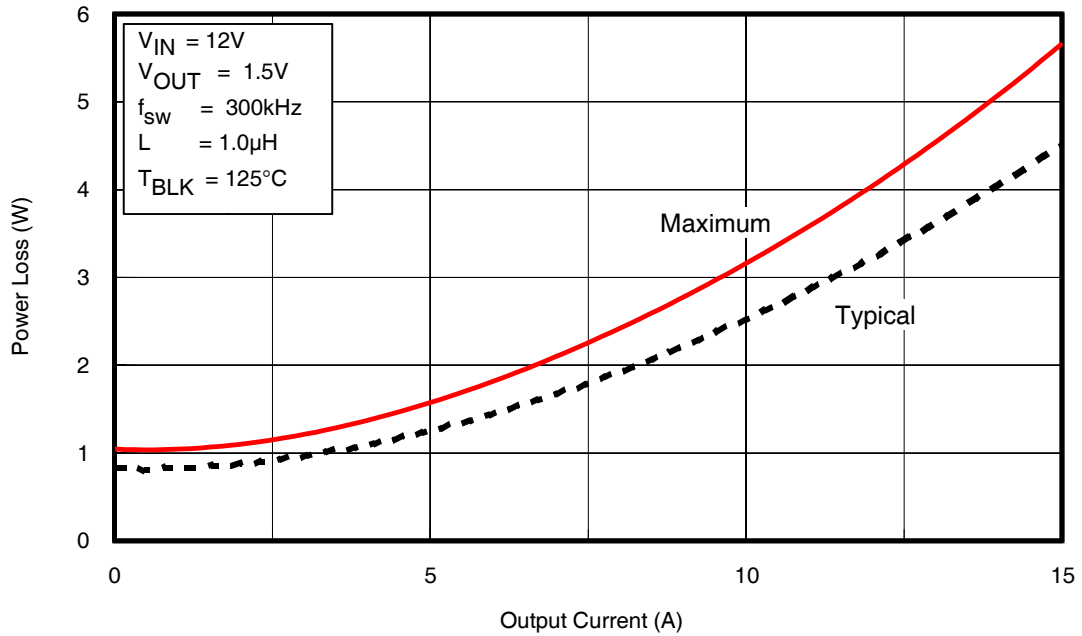
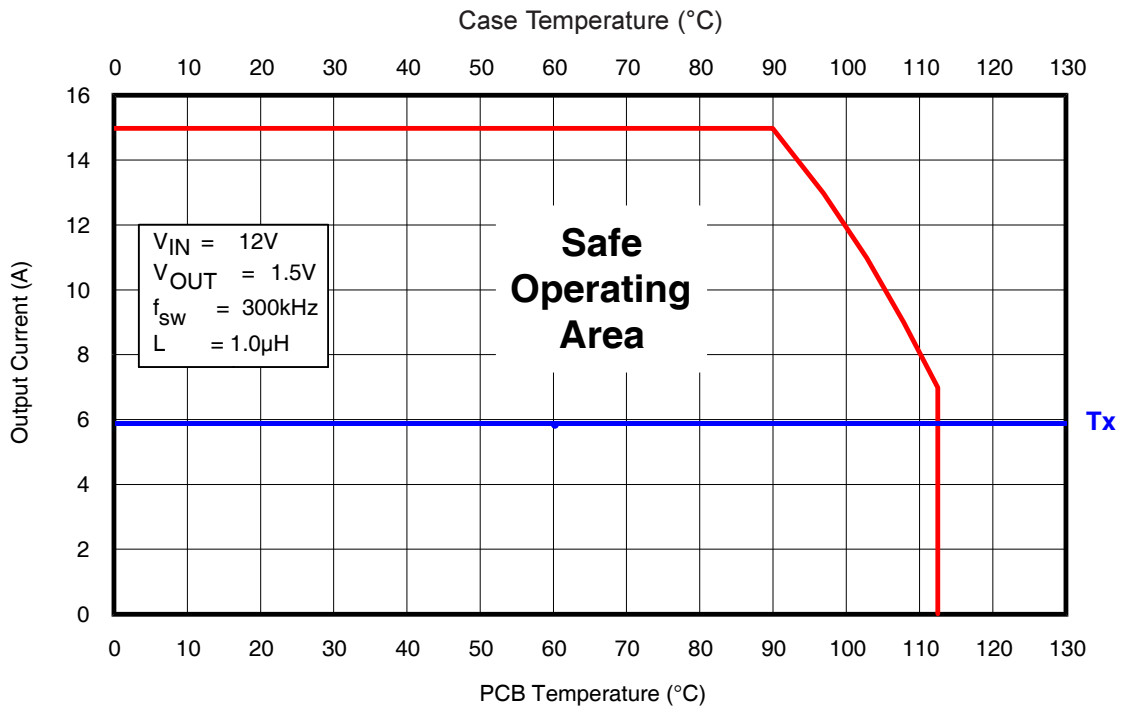
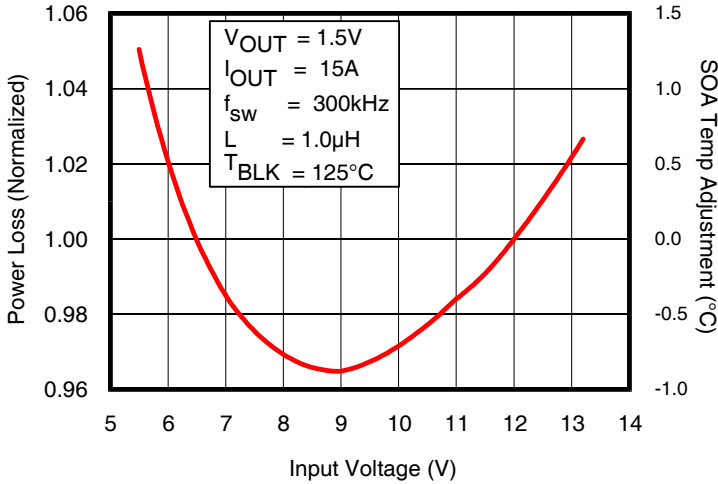

Fig. 2: Power Loss vs. Current
Fig. 3: Safe Operating Area (SOA) vs. T_{PCB} & T_{CASE}
Fig. 4: Normalized Power Loss vs. V_{IN}
To make adjustments to the power loss curves in Fig. 2, multiply the normalized value obtained from the curves in Figs. 4, 5, 6 or 7 by the value indicated on the power loss curve in Fig. 2. Then if multiple adjustments are required, multiply all of the normalized values together, then multiply that product by the value indicated on the power loss curve in Fig. 2. The resulting product is the final power loss based on all factors. See example no. 1.
To make adjustments to the SOA curve in Fig. 3, determine your maximum PCB Temp & Case Temp at the maximum operating current of each iP1203. Then, add the correction temperature from the normalized curves in Figs. 4, 5, 6 or 7 to the T_X axis intercept (see procedure no. 2 above) in Fig. 3. When multiple adjustments are required, add all of the temperatures together, then add the sum to the T_X axis intercept in Fig. 3. See example no. 2.
- (Fig. 2) Maximum power loss = 4.1W
- (Fig. 4) Normalized power loss for input voltage ≈ 1.025
- Output1 (Fig. 4) Normalized SOA Temperature for input voltage $\approx +0.7^{\circ}C$